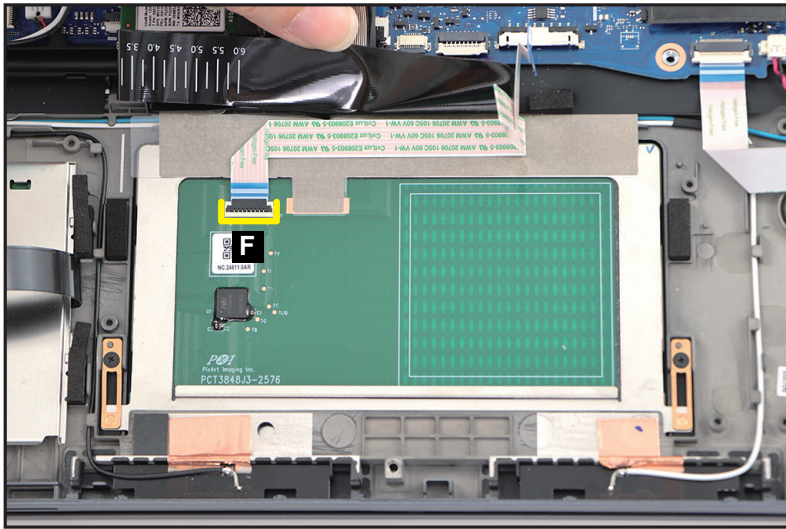

Figure 1-59. Touchpad Module Removal
5. Disconnect the touchpad FFC from the touchpad module connector (F) (Figure 1-59).